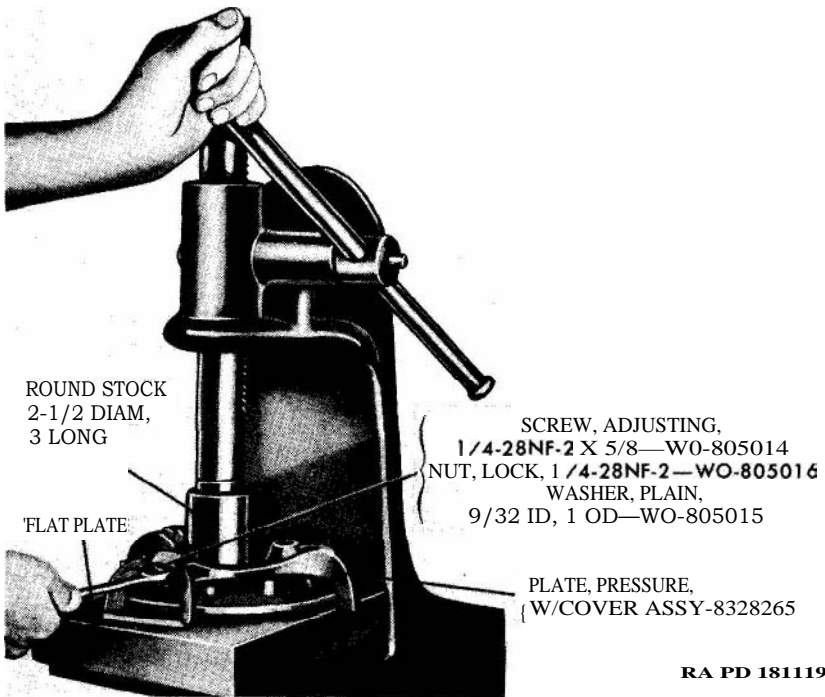

Figure 108. Depressing pressure plate release levers.
a. Install the pressure plate with/cover assembly (fig. 108) in an arbor press on a fiat plate large enough to support the assembly at all points. Position a length of round stock approximately 21½ inches in diameter on the pressure plate release levers so that it bears on all three levers. Remove the clips from the ends of the release levers.
c. Remove the adjusting screw, lock nut, and plain washer (*fig. 108*) from the pressure plate. Hold a steady pressure on the levers until all three cap screws are removed. Release the applied pressure slowly, and remove the pressure plate with/cover assembly from the arbor press when the springs have expanded to their full free length.
- a. Set the pressure plate (D) on the fiat bed of the arbor press (fig. 108) and position the pressure plate cover (E) over the plate. Lift the release levers so that they stand straight up.
- b. Install the three pressure plate spring cups (F) in the cover with the indentations in the cups facing the center of the cover.
- c. Install a pressure spring (G) and an auxiliary pressure spring (H) (auxiliary pressure spring centered in the pressure spring) in each pressure plate spring cup (F). Install an auxiliary pressure spring retainer (M) on top of each auxiliary pressure spring.
- d. Drop the levers over the ends of the springs, and center a piece of $2\frac{1}{2}$ -inch diameter, 3-inch long round stock on the levers (fig. 108). Exert a moderate pressure on the levers with the arbor press and secure the pressure plate cover to the pressure plate with a $\frac{1}{2}$ ID, 1 OD, plain washer (Q) ; a $1/4$ -28NF-2 x $5/8$ adjusting screw (N) ; and a $1/4$ -28NF-2 lock nut (P) installed under each of the pressure release levers (fig. 108).
- e. Install the pressure plate release lever clips (L) by engaging the slotted underside of the clips under the heads of the adjusting screws (N), and then snapping the clips into place over the ends of the pressure plate release levers (K).